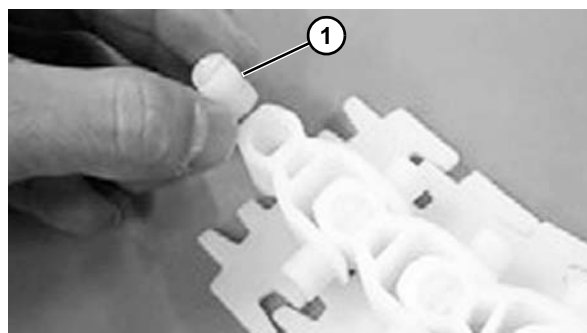

Figure 49
1. Insert the plastic pivot (**Figure 49, item 1**) with the slot facing outward.